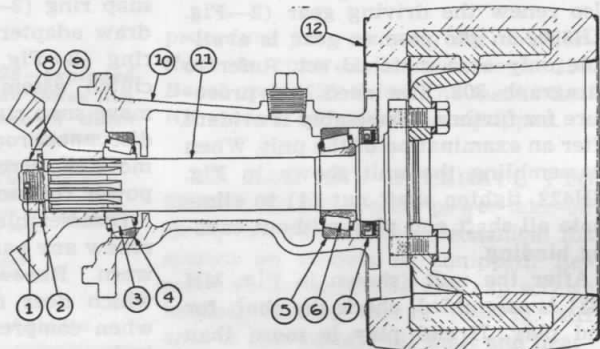

Fig. MH422—Pulley unit as used on early 201, 202, 203 and 203G models.
The pulley driven unit as used on early 201, 202, 203 and 203G models was mounted in taper roller bearings as shown in Fig. MH422. On later 201, 202, 203, and all 55 tractors, the pulley shaft is mounted in ball and straight roller bearings as shown in Fig. MH
Refer to Figs. MH422 and MH423. After removing the pulley unit from tractor, remove nut from pulley end of shaft and bump or pull shaft out of housing. If bevel gear on end of pulley shaft is faulty it will be necessary to also renew the driving gear (2—Fig. MH350) in pto case as gear is available only as a matched set. Refer to paragraph 302. The need and procedure for further disassembly is evident after an examination of the unit. When reassembling the unit shown in Fig. MH422, tighten shaft nut (4) to eliminate all shaft end play without causing binding.